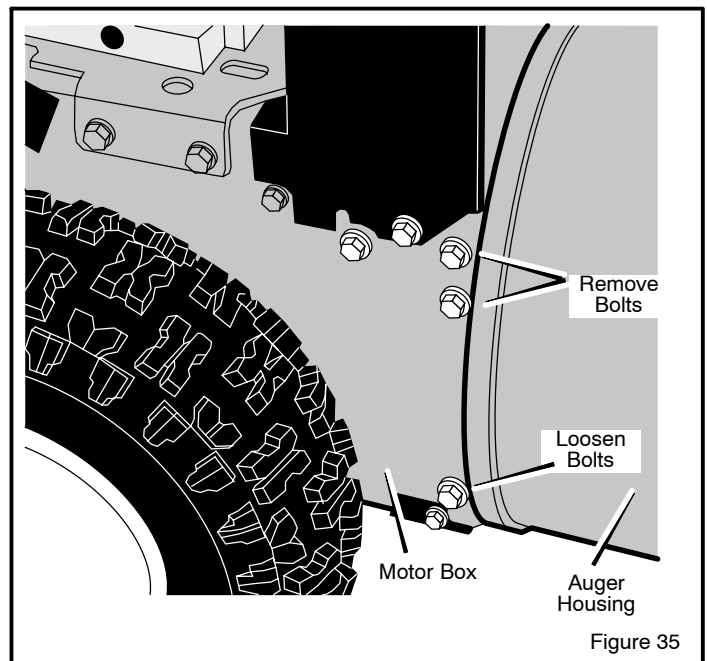

Figure 35
8. Remove the top four **bolts** that hold together the **auger housing** and the **motor box**. Loosen the bottom two **bolts**. The **auger housing** and the **motor box** can now be split apart for removal of the belt (see Figure 35).